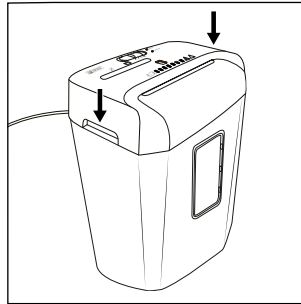

Fig. 2
- ◆ Hold the cutter attachment **6** by the two integrated carrying recesses **8** and position it over the large waste collector **12** so that the power cable **1** points backwards and the viewing window **11** in the large waste collector **12** points forwards (see fig. 2).